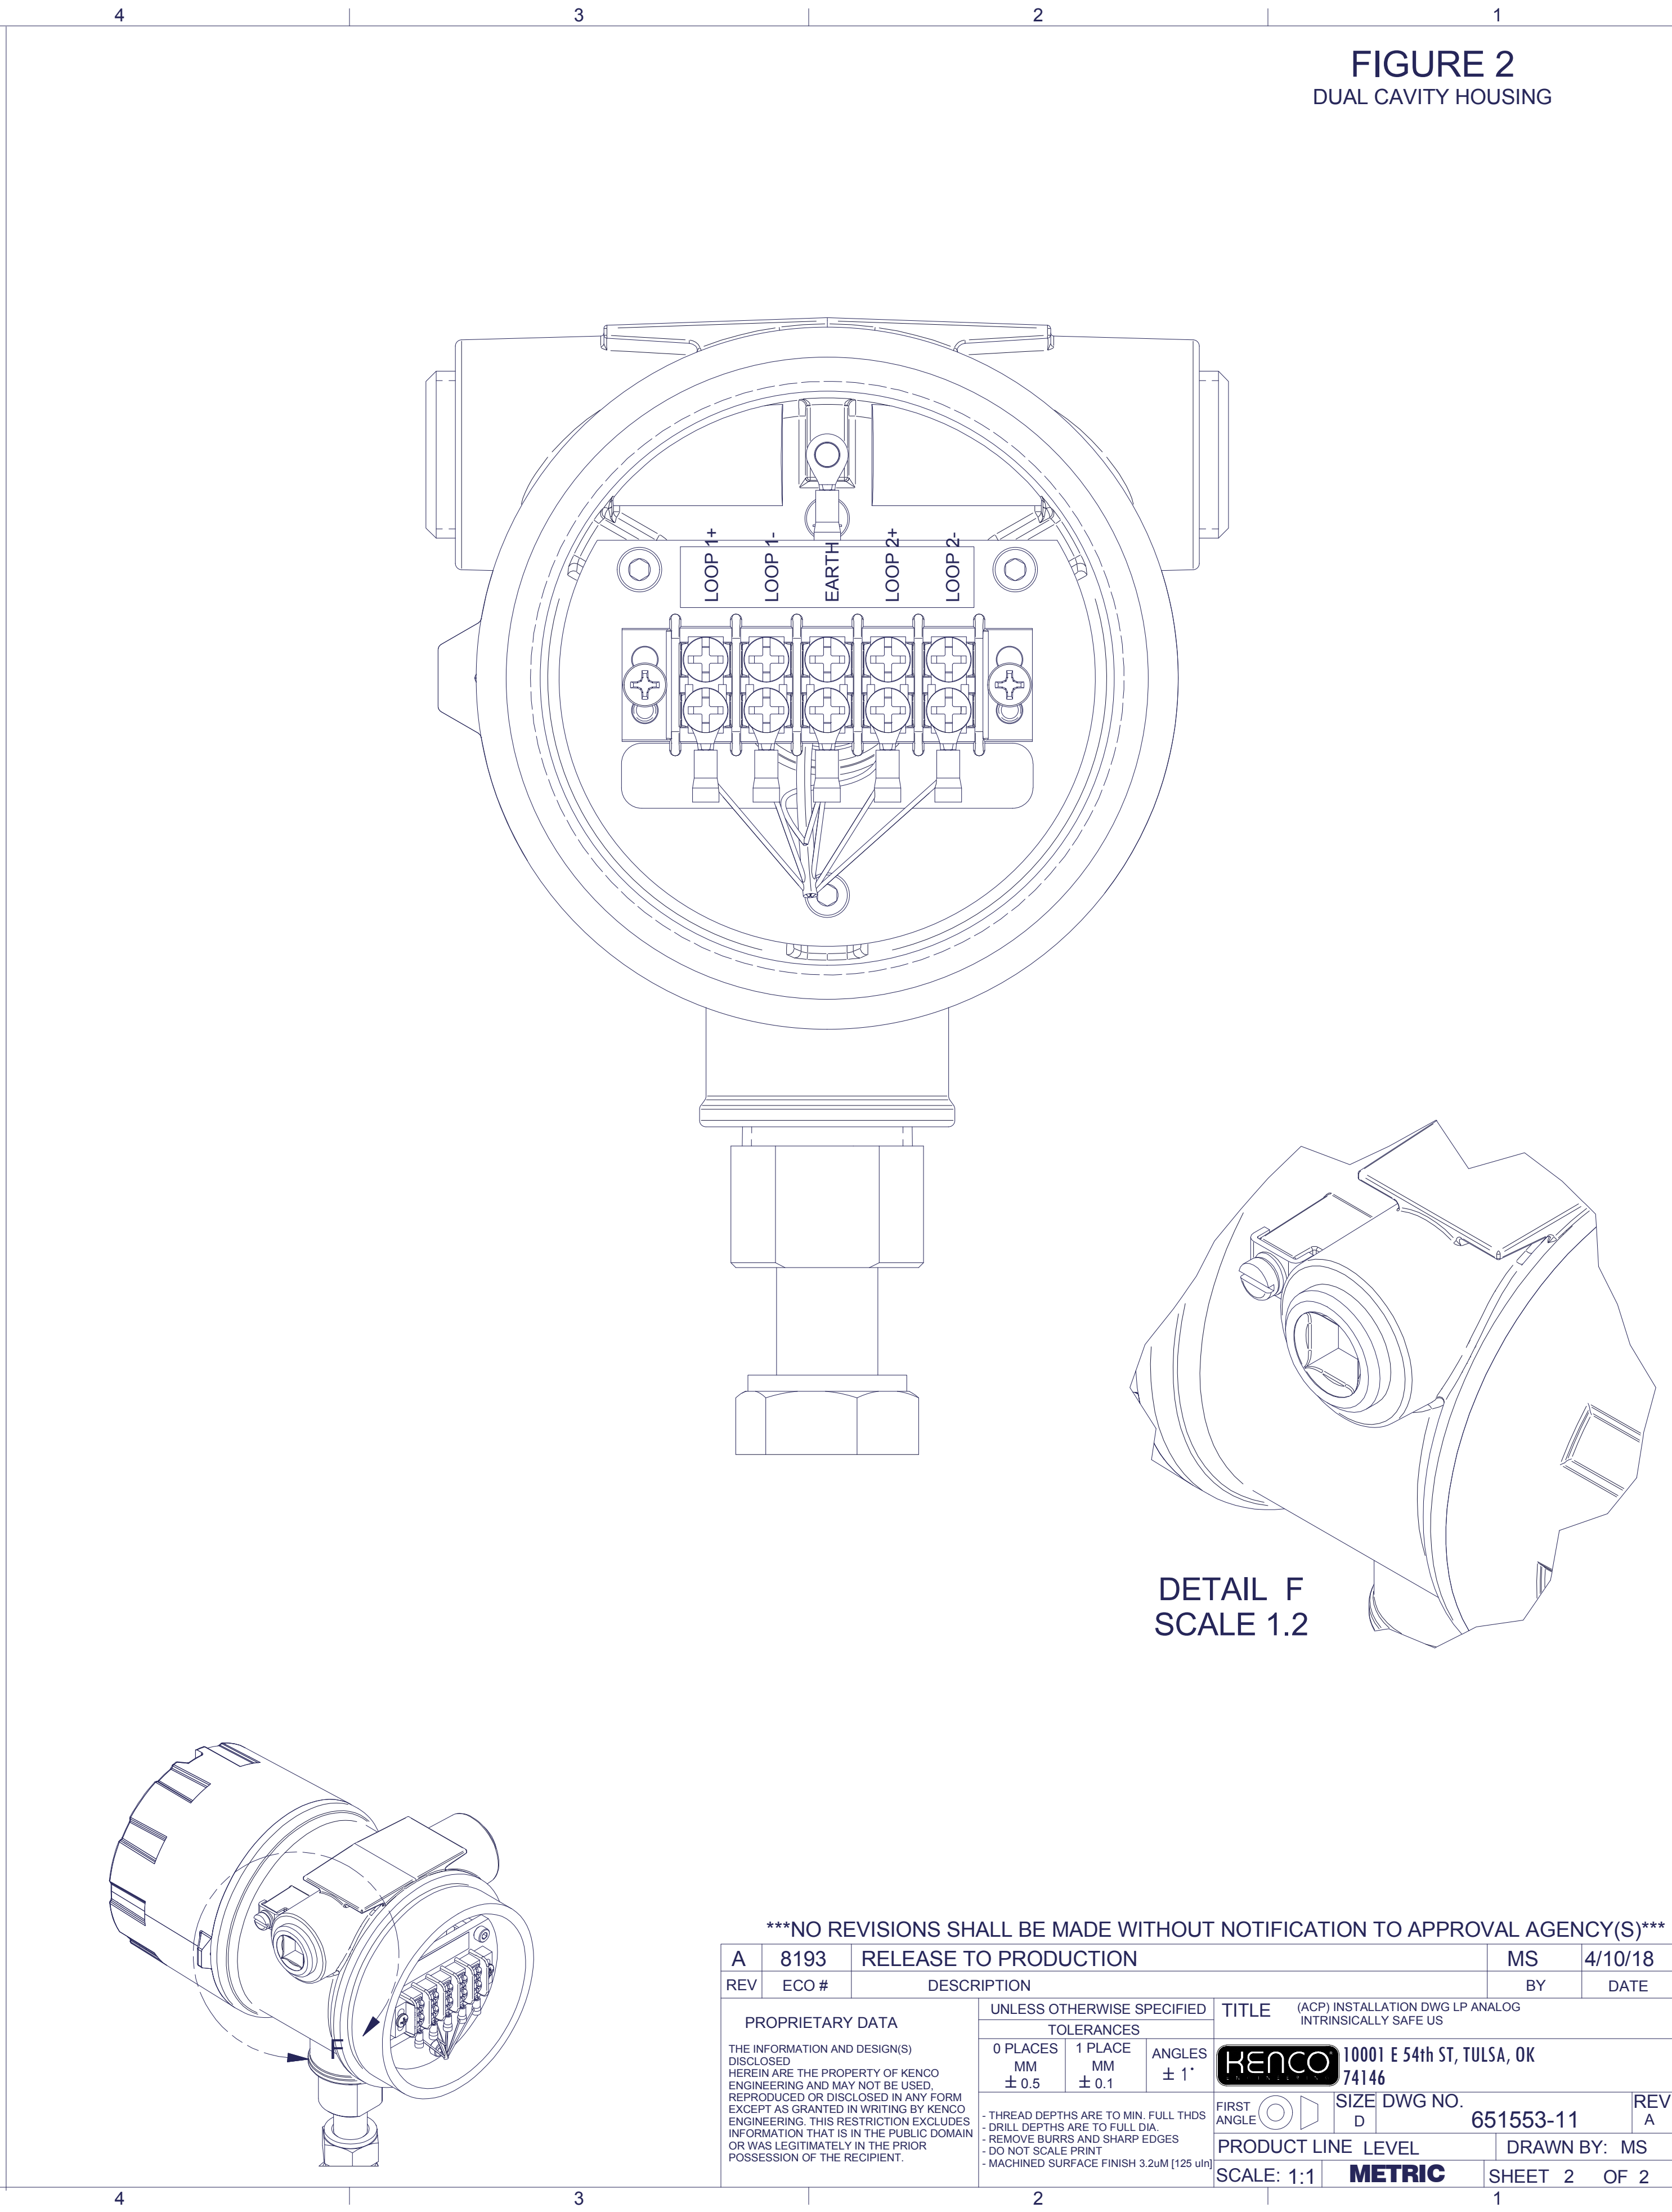

FIGURE 2
2. DUAL-CAVITY ENCLOSURES: CUSTOMER CONNECTIONS WILL BE MADE AT TERMINAL BLOCK ON POWER SIDE OF HOUSING (NOT TO TERMINAL BLOCK ON INTERCONNECT BOARD). SEE FIGURE 2 ON PAGE 2